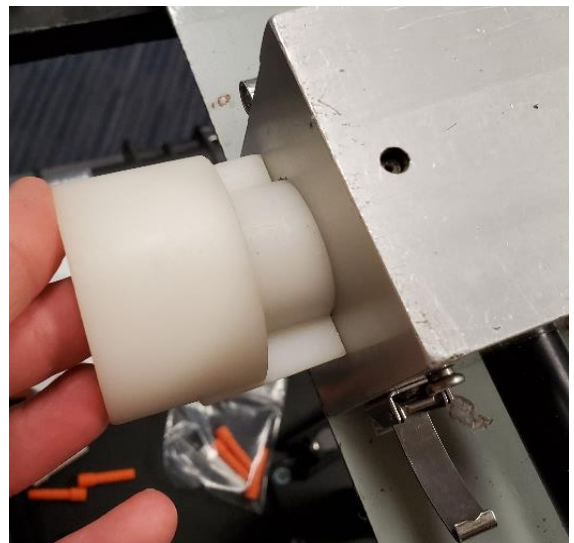

Figure 28
11.8 Insert and seat Fiber Bundle Guides into back of Blowing Head. Both Fiber Bundle Guides are identical. Install with their joint in the horizontal plane. Install lower Guide first followed by upper Guide and then engage rear latch. **See Fig. 28.**